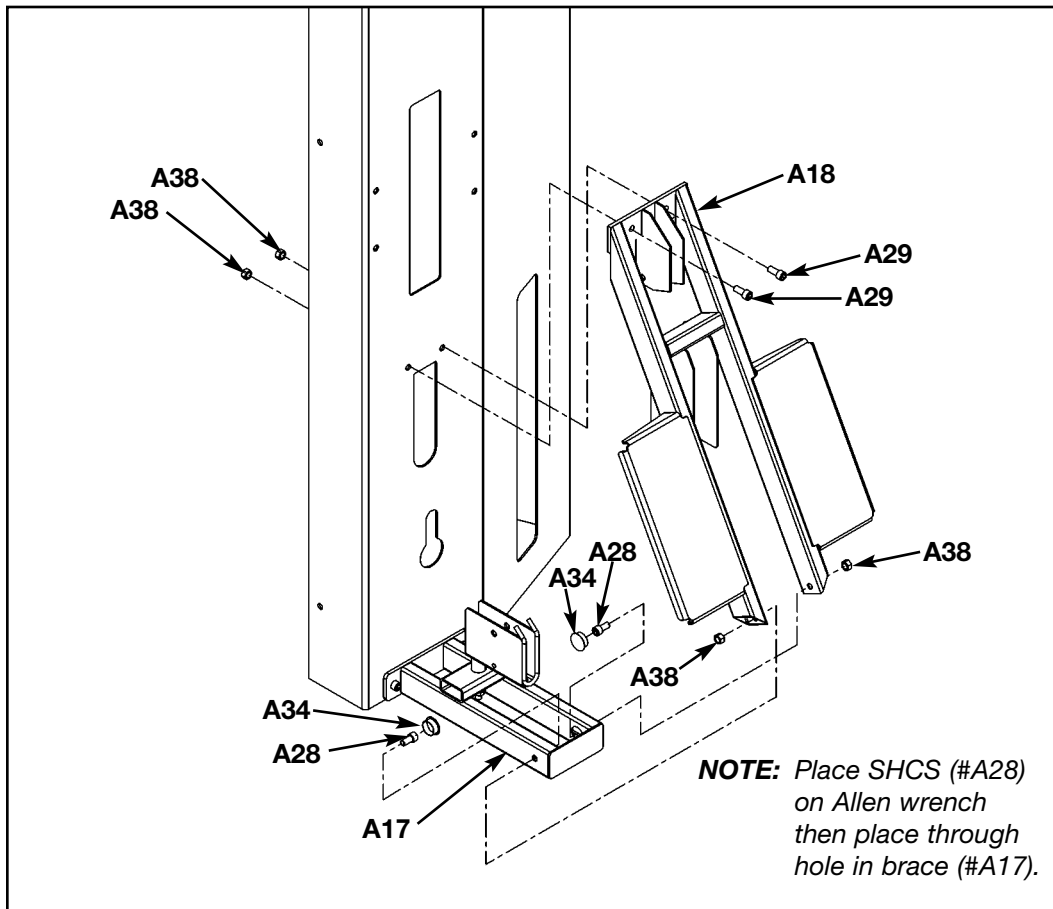

Figure 10
**5. Install platform to column** (see steps 5A - 5E and Figure 10).
- B.** Attach upper end of platform (#A18) to column using two SHCS .375-16 x .875 (#A29) and two nylon locknuts (#A38). See Figure 10. **NOTE:** Do not securely tighten screws at this time.
- E.** Install two plastic inserts 1.00 Dia. (#A34) as shown in Figure 10.